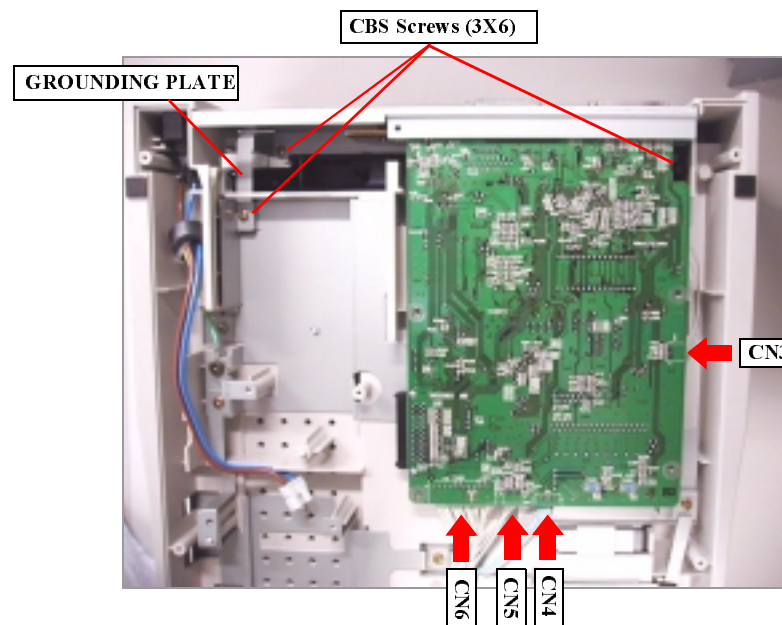

Figure 4-11. B109 MAIN Board Removal (2)
6. Disconnect the harnesses from CN3, CN4, CN5, and CN6 on the B109 MAIN Board, and then remove the B109 MAIN Board from "HOUSING, LOWER". (See Figure 4-11.)